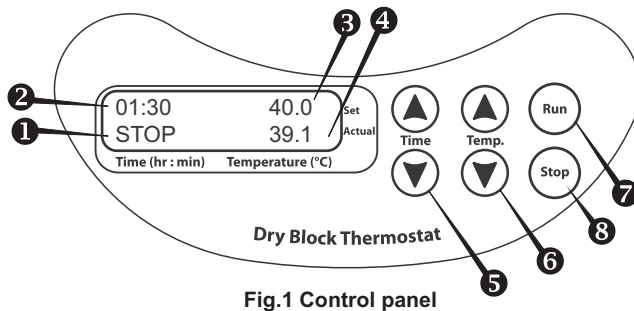

Fig.1 Control panel
- 4.3. **Temperature setting.** Use the ▲ and ▼ **Temp.** keys (Fig.1/⑤) to set the required temperature (Fig.1/⑥). Pressing the key for more than 2 sec will increase the increment.
- 4.4. The heat block heating. The actual temperature will be shown in the lower line of the display (Fig.1/⑥).
Use the ▲ and ▼ **Time** keys (Fig.1/⑤) to set the required sample incubation time in hours and minutes (hr:min). Pressing the key for more than 2 sec will increase the increment. The set time value will be shown in the upper line of the display (Fig. 1/②).
- 4.7. Press the **Run** key (Fig.1/⑦) to start the timer. The elapsed time will be indicated in the lower line of the display (Fig.1/⑧).
- 4.8. After the set time interval elapses, the timer will give a sound signal and a blinking STOP indication will be shown on the display. Press the **Stop** key (Fig.1/⑨) to stop the signal.
**Attention!** Stopping the timer does not stop the heating/temperature maintenance process. The heating can be stopped by reducing the temperature below 25°C using the ▼ T, C key (Fig. 1/⑥) (OFF indication will be shown on the display, fig.1/③).